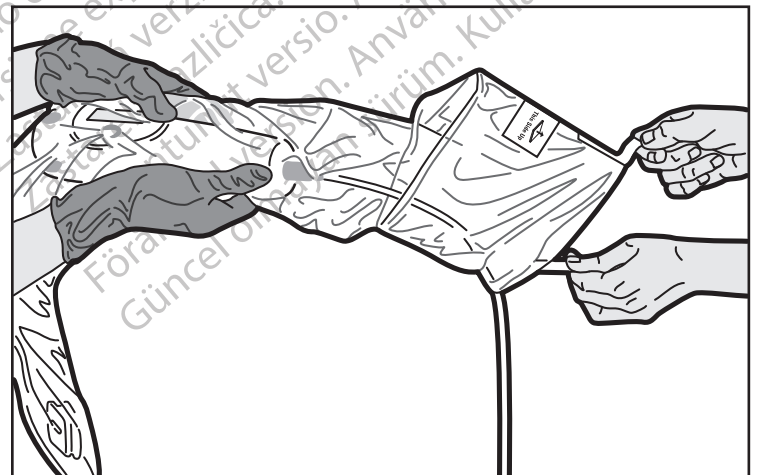

Figure 5. Unfolding the Bag
6. The sterile operator then grasps the covered MDU5 PLUS Motordrive Unit. The non-sterile operator grips and pulls the tabs until the bag is unfolded to its full length (Figure 5).